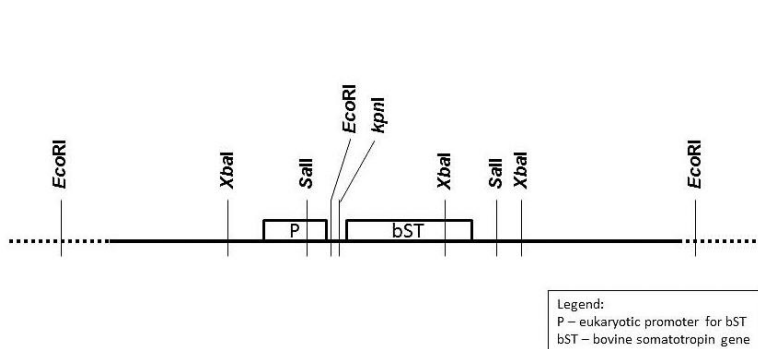
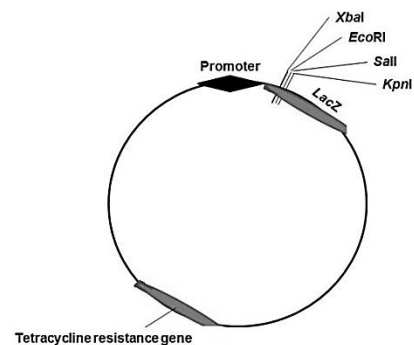

Fig.1.1
Fig. 1.2
A student wanted to carry out an experiment to clone the *bST* gene for expression. **Fig.1.1** below shows a map of the region of the cow's genome where the *bST* gene is located and **Fig. 1.2** shows the plasmid that he intends to use as a vector.
- (a) (i) With reference to **Fig. 1.1** state and explain the most ideal combination of restriction enzymes that you would use to isolate the *bST* gene for expression. [3]
- (ii) Describe how two features of the plasmid shown in **Fig. 1.2** would allow him to identify the bacteria that have taken up the *bST* gene. [3]